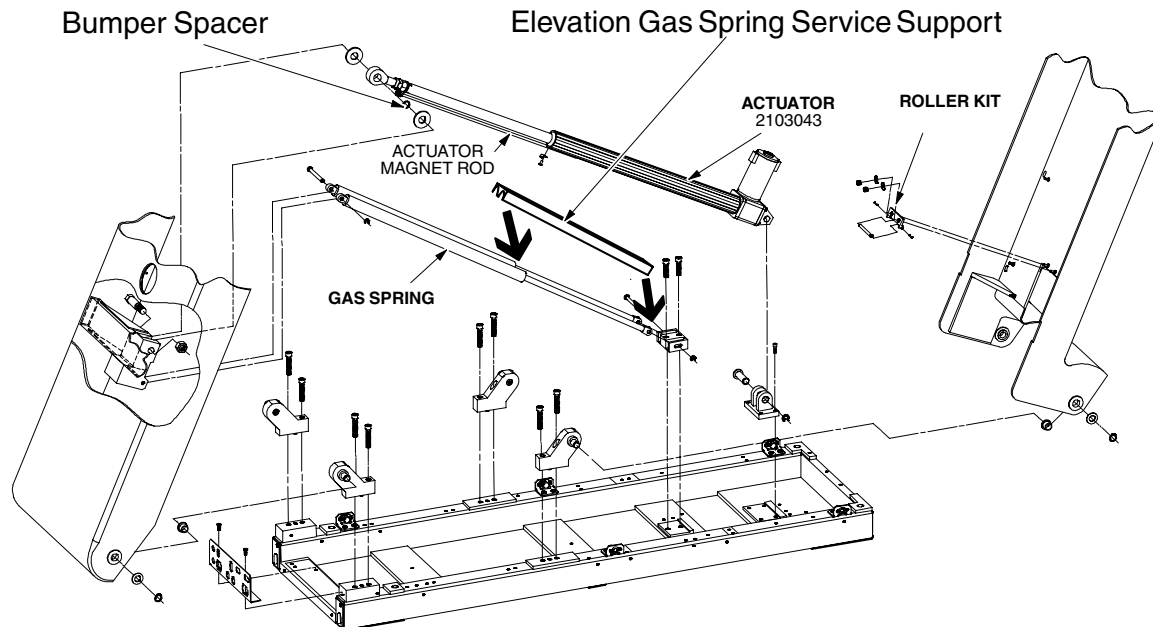
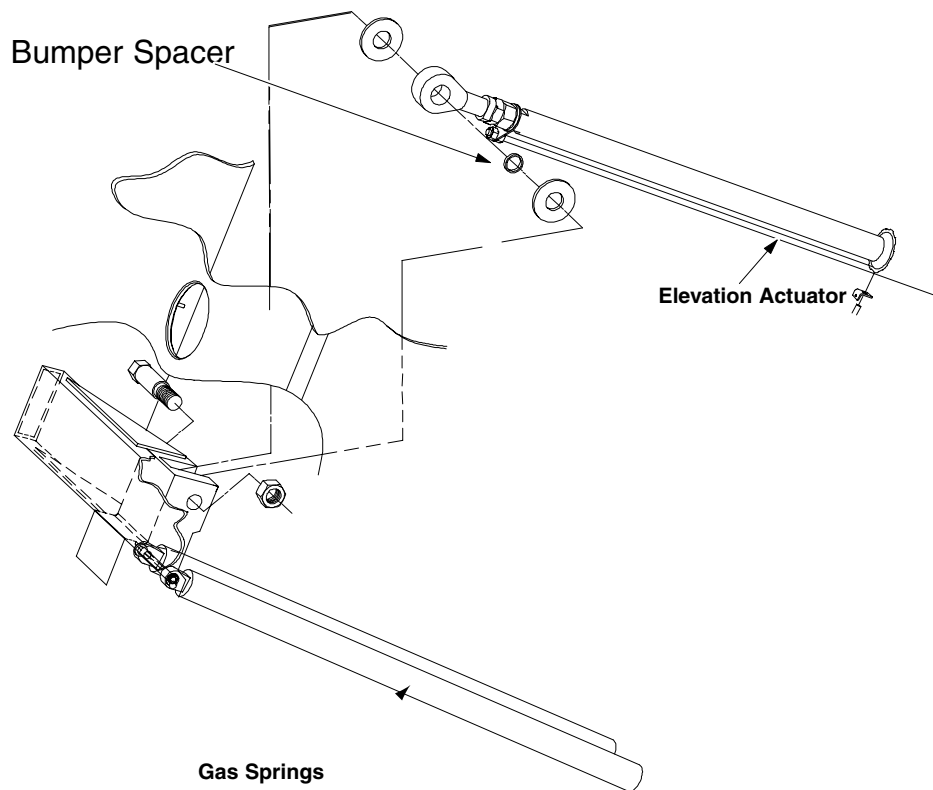

Figure 12-1 Table Base Layout
Figure 12-2 Elevation Actuator Upper Mounting Detail
- 8.) Place the “Elevation Gas Spring Service Support” onto the lower gas spring mount by sliding the service support down the top surface of the gas springs. See Figure 12-1, on page 799. Insure that Service Support, top surface, at arrows, is touching the Elevation Gas Cylinders for proper installation.
- 10.) Loosen and remove the locknut from the upper Actuator mounting pin. Note the positions of the two bumper washers and spacer, and remove them. See Figure 12-1, on page 799, and Figure 12-2, on page 799.